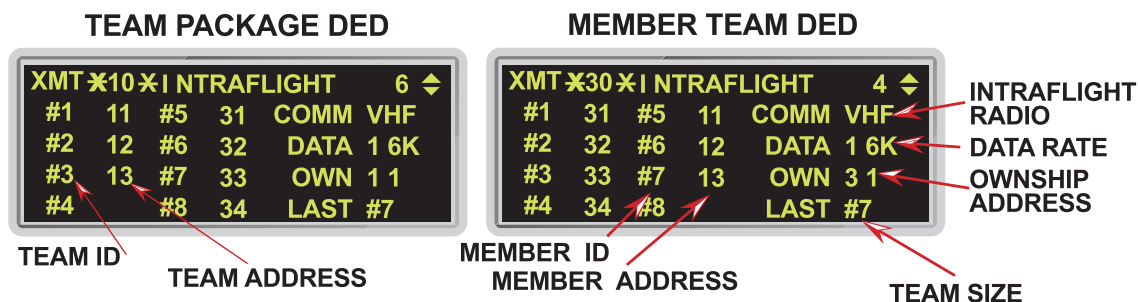
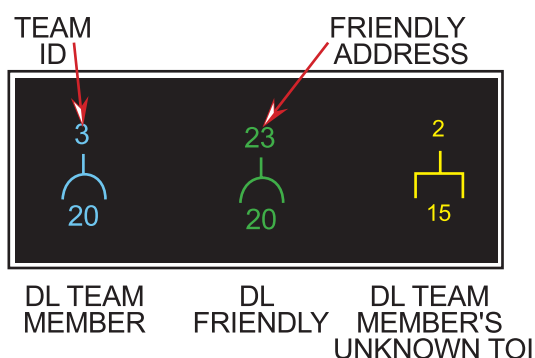

Figure 3-16 DED Intraflight Initialization Page
Figure 3-17 MFD Data Link Friendly And Unknown Symbols
The DED Intraflight page (Figure 3-16) has been modified to allow entry/setup for 8 team member addresses. The HSD format provides the display of up to 8 DL friendly positions and Identifications (ID). IDs 1 to 4 represent your 4-ship team package with the ID (1-4) above the aircraft symbol. A-A data link assignments can only be made among this four ship package. The second four ship package (Team IDs 5-8) is displayed with their team address (two digit number) above the symbol.
The MFDs display up to 8 DL unknown symbols: the bugged target of the four team members and the team members assignments. The MFDs display 1 through 4 centered above the symbols for team members (1-4). The Team Address (##) is displayed above the four DL Friendly Team members (5-8) (Figure 3-17). Bugged targets for team members 5 to 8 are not displayed. Data link targets outside of the FOV arrows (see SECTION 1 - RDP-884) are only displayed for the 4-ship team (3-ship in Figure 3-16).
When a Friendly Team Member (5-8) passes his A-G cursor position, his symbol is displayed with his Team Address (##) above the symbol (Figure 3-17).